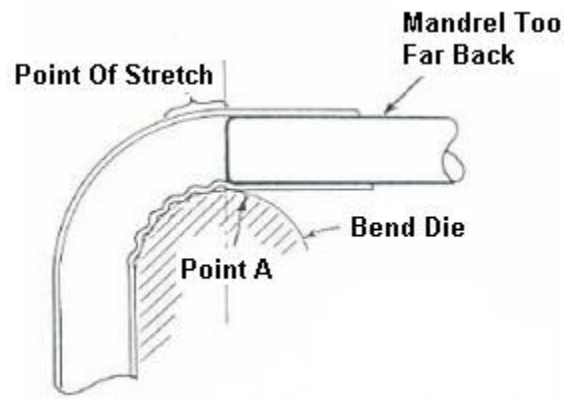
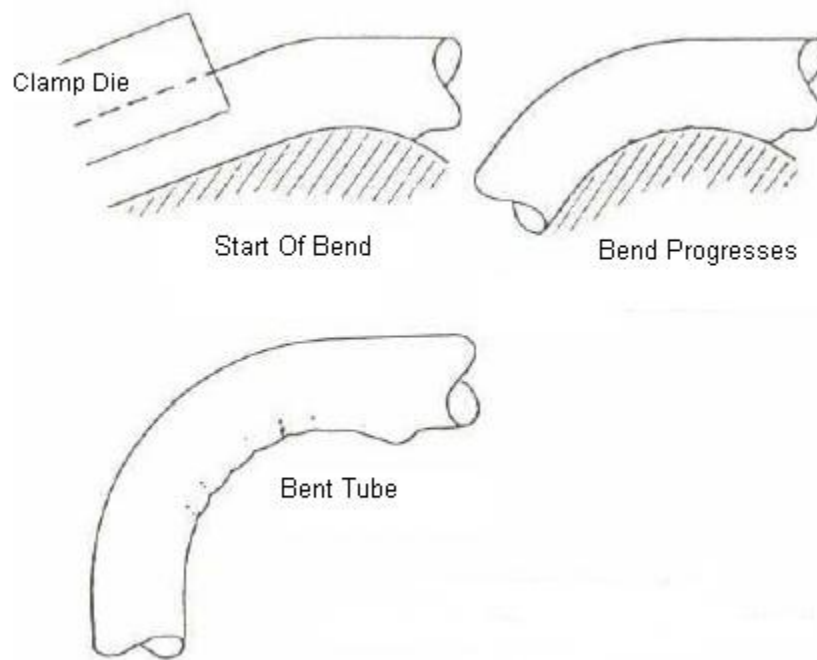

Figure 8
Figure 9
***Mandrel too far back:*** Advancing the mandrel slightly forward, the wrinkles may stop forming in front and begin to form in back of tangent. **The mandrel at this point is still not far enough forward to generate the necessary pressure on the inside of the bend and compress the material.** The bend may start out smooth, but as it progresses past approximately 20 degrees, the material pushes back, forming a ripple or wave at point A (**Figure 8**). This ripple is forming and being flattened continually between the mandrel and the bend die. The ripple, however, does not entirely disappear. When the bent tube is removed from the bend die, there is a large buckle at point A. **It is necessary to continue to advance the mandrel until the material can't squeeze back between the bend die and mandrel.** **Figure 9** shows what occurs when the mandrel is not full advanced.